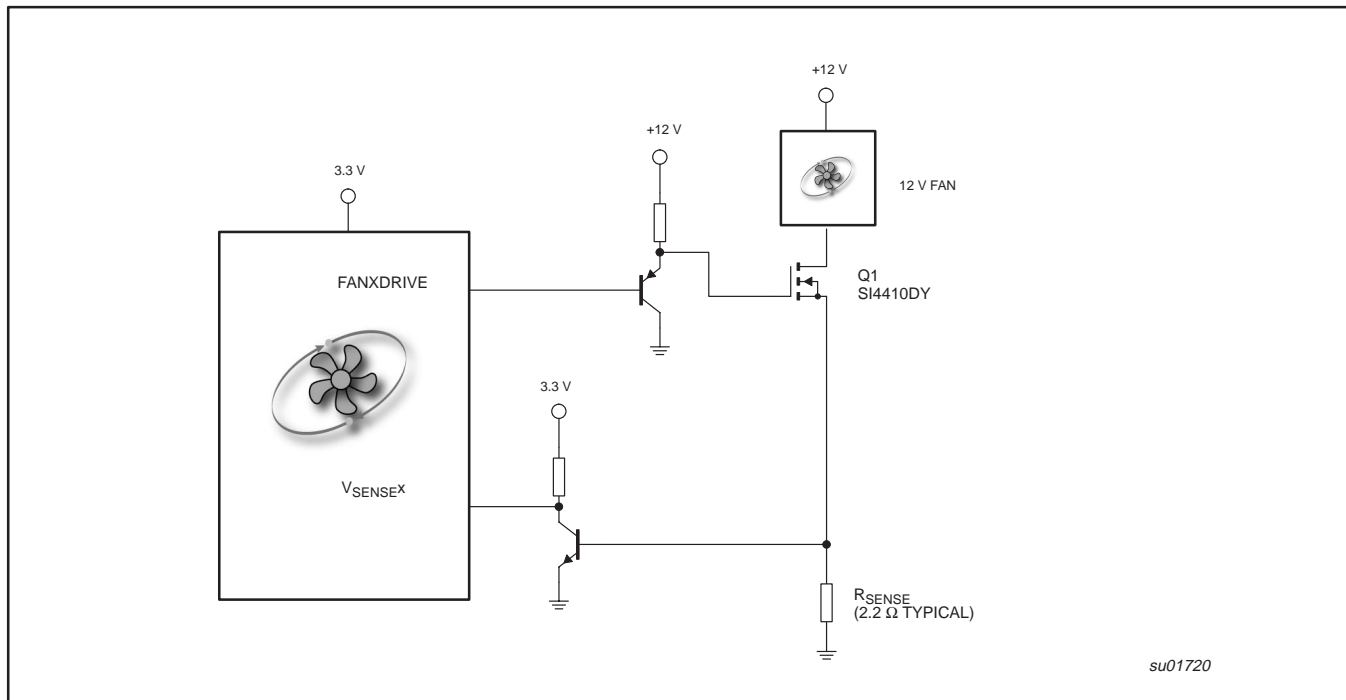

Figure 4. Interfacing the 82CF201 to a 2-Wire fan.
The PWM controls the fan speed proportionally to the thermistor resistance. The 30Hz PWM duty cycle has resistance control range from 10K to 1.75 KΩ (typical for NTC thermistor) for 30% to 98% output duty cycle. The PWM pins drive a low cost PNP transistor to give a good drive into the N-channel MOSFET as the low side power switch element in the system. Example of drive circuits will be shown Figure 4. This output has asymmetric complementary drive. Since the system relies on PWM rather than linear power control, the dissipation in the power switch is kept to a minimum. Generally, very small devices (TO-92 or SOT package) will suffice.
As shown in Figure 4, the  $V_{SENSE}$  input is connected to the collector of NPN transistor through an inverting buffer transistor (2N3904 or PMBT3904D) which amplifies the signal from the low-value current sensing resistor in the ground return leg of the fan circuit. During normal fan operation, communication occurs as each pole of the fan is energized.
$1.56$  V @  $V_{DD} = 3.3$  V). The design of proper sense circuitry is a matter of scaling the  $R_{SENSE}$  and the gain in buffer transistor to meet the logic high as shown in Figure 4. Assuming the  $V_{BE}(\min)$  of the transistor is approx.  $0.5$  V. Table 1 lists some recommended  $R_{SENSE}$  values according to the nominal operating current.
**Table 1. Recommended values of  $R_{SENSE}$  per Figure 4**